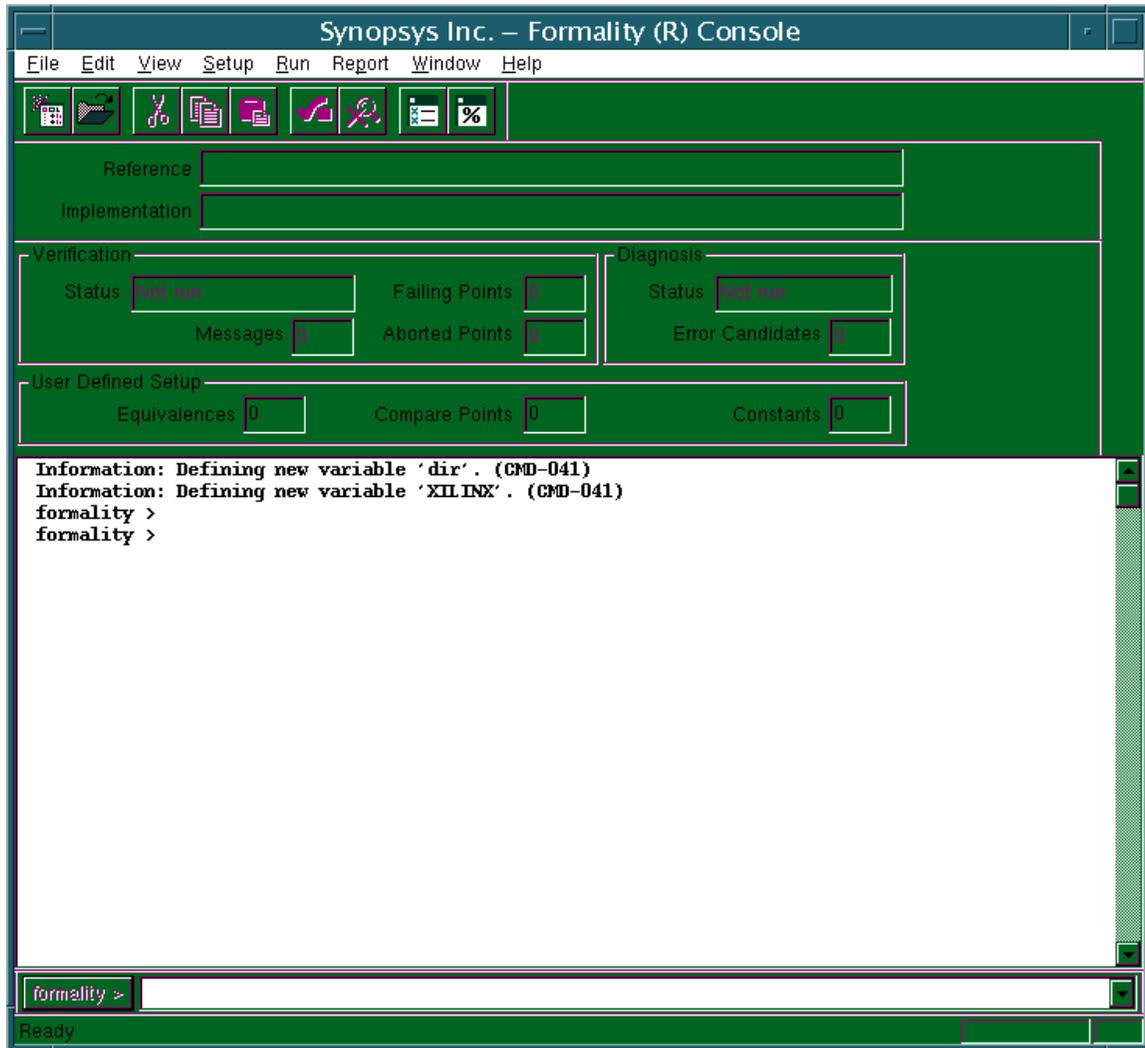

Figure 2: Formality Main GUI
2. Start up the GUI by typing "formality" at the UNIX terminal prompt. **Figure 2** shows the Formality GUI.